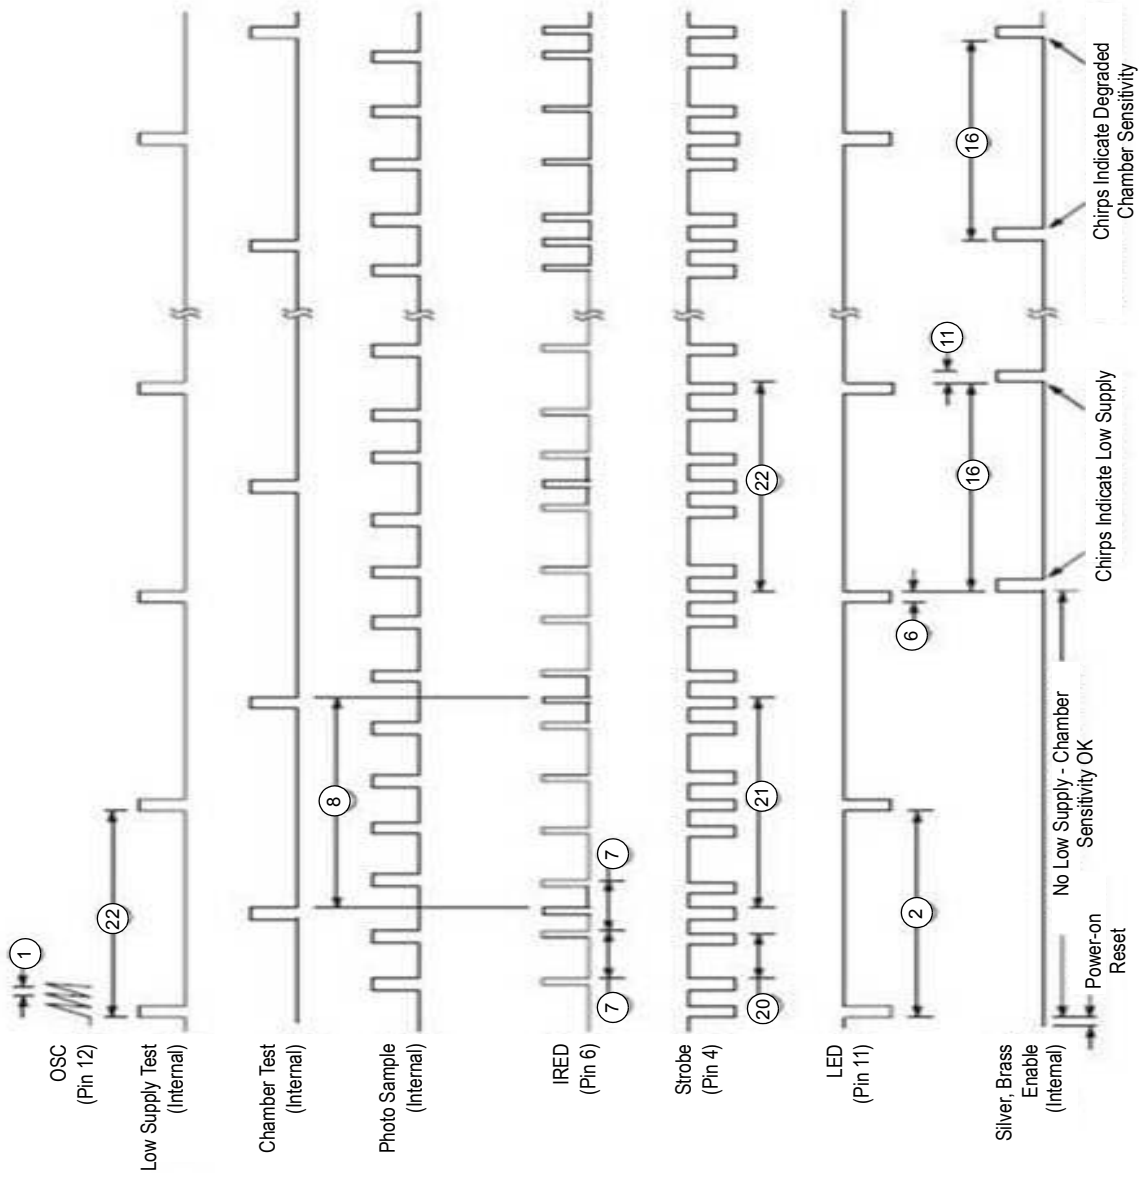

Figure 3. Typical Standby Timing Diagram MC146012 Device
**Table 3. AC Electrical Characteristics** (Refer to Timing Diagram Figure 3 and Figure 4.  $T_A = 25^\circ\text{C}$ ,  $V_{DD} = 9.0\text{ V}$ , Component Values from Figure 5.)
**Table 3. AC Electrical Characteristics** (Refer to Timing Diagram Figure 3 and Figure 4.  $T_A = 25^\circ\text{C}$ ,  $V_{DD} = 9.0\text{ V}$ , Component Values from Figure 5.) (continued)
The Detect input must be ac/dc decoupled from all other signals,  $V_{DD}$  and  $V_{SS}$ . Lead length and/or foil traces to this pin must be minimized also. See Figure 3.